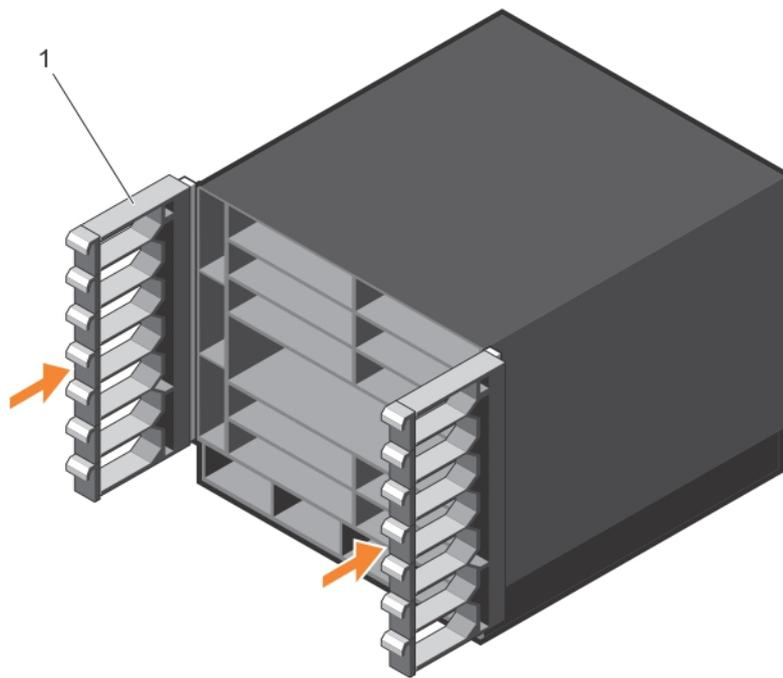

Figure 27. Cable Management Brackets Installed on Chassis
- 2 Press the bracket forward so that the bracket holes cover the pins and thumb screws on the flanges (item 1 in Figure 27). The bracket locks in place as you press it forward.